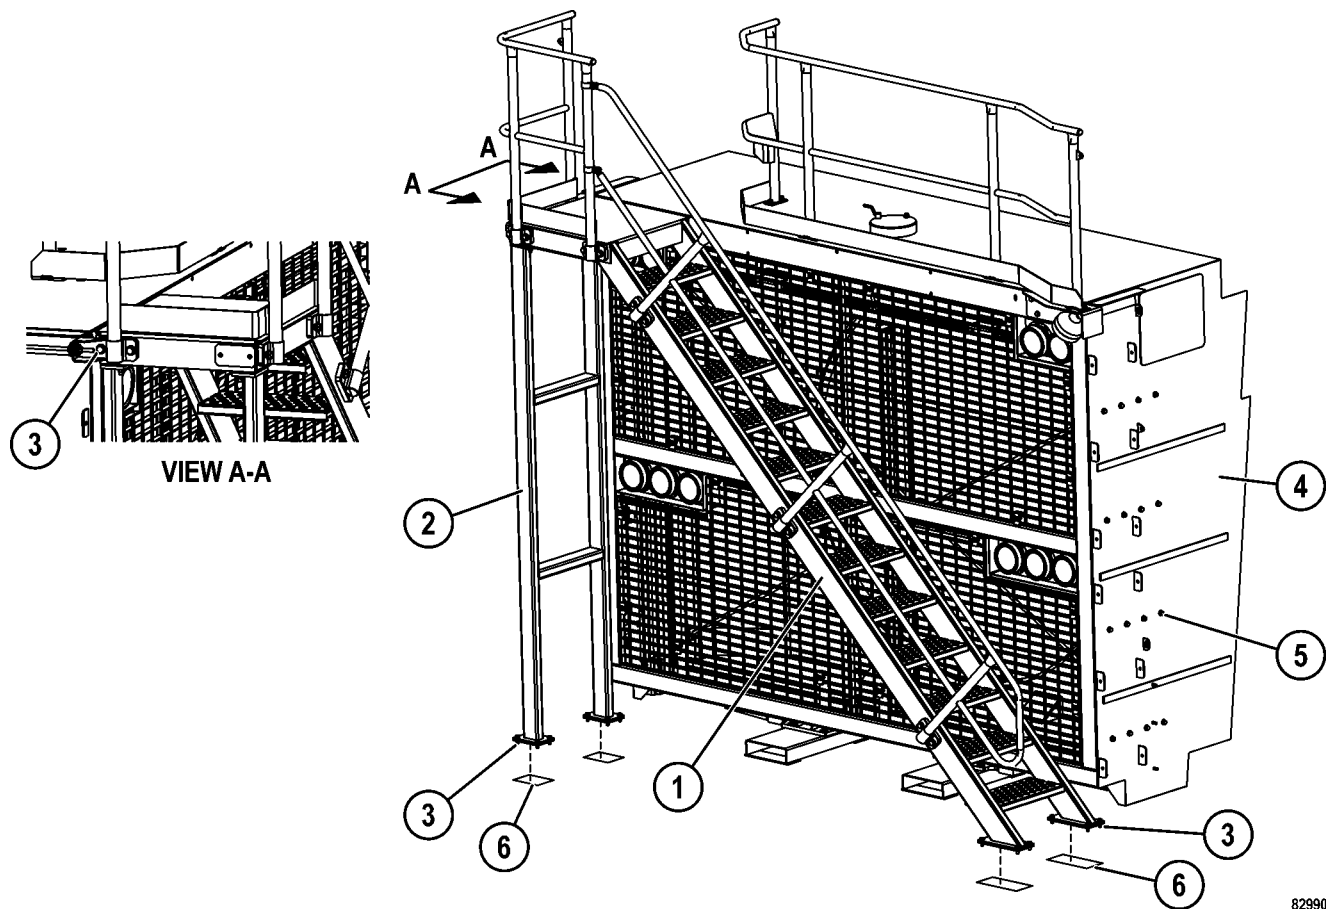
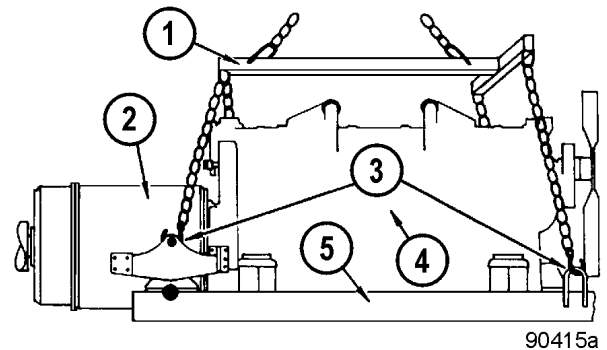

FIGURE 50-7. DIAGONAL LADDER, GRILLE & HOOD REMOVAL
FIGURE 50-9. POWER MODULE LIFTING POINTS
Lift the power module only at the lifting points on the subframe and engine/alternator cradle structure. Refer to Figure 50-7 and Figure 50-9.
25. Position the hoist at front subframe lifting points (7, Figure 50-7). Raise the engine subframe until the engine is on a level plane. Remove the safety chain.
27. Attach lifting tool (1, Figure 50-9) to the hoist and attach it to the engine/alternator cradle structure and front subframe lifting points as shown in Figure 50-9. Remove the safety chain.